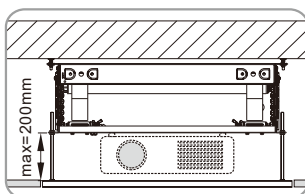

Figure 22
14. Adjust the height of decorative ceiling plate depended on the actual ceiling height, and twist setscrew nut on the 200mm long screws assembled in the four corners of decorative ceiling plate. The max height is about 200mm (Figure 22). Please tightening screws to avoid looseness.